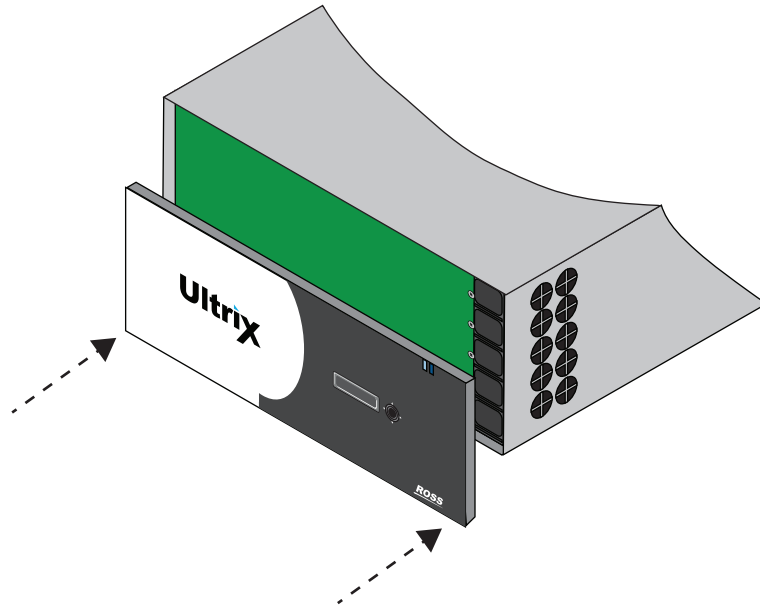

Figure 81 ULTRIX(-NS)-FR5 — Aligning the Door to the Chassis
- the corner with the Ross logo is in your right hand. (**Figure 81**)